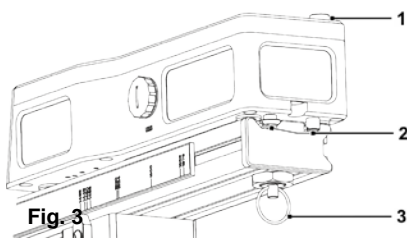

Fig. 3
- Adjust the feet of the FM5-BT in the guide slots of the measuring bar (2, Fig. 3). Here, pull the locking bolt (3, Fig. 3) downward.
- Press the brake on the FM5-BT (1, Fig. 3) and slide the measuring instrument over the measuring bar.